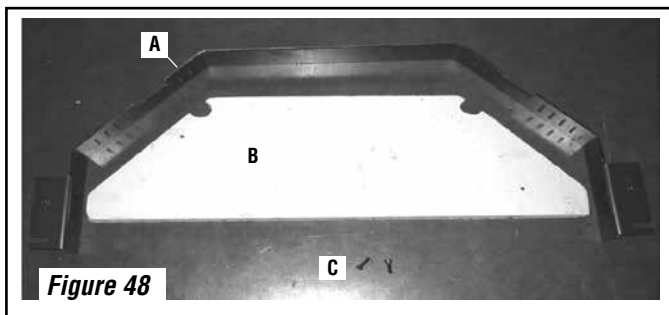
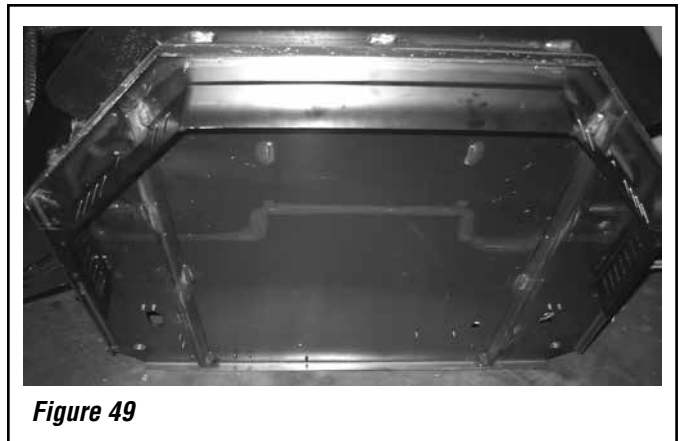

Figure 48
Figure 49
(Refer to Figure 48)
1. Install the 2" lower trim piece - Fasten the 2" trim piece underneath the base of the front of the insert as follows; use a 5/32" allen wrench or T-handle wrench to secure the 2 screws (see C in **Figure 48**) provided, one at the left side and one at the right side base of the insert. **NOTE:** This process will be simplified by very cautiously tilting the insert back (see **Figure 49**).